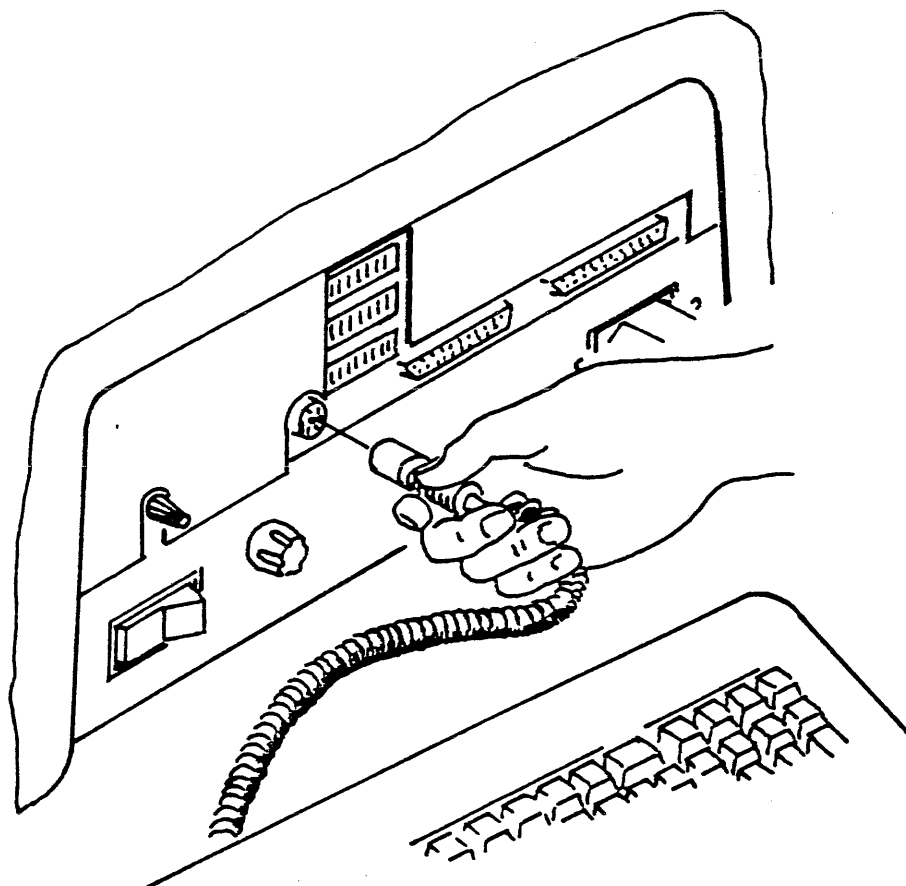

Figure B-5. Connecting the Keyboard to the Display Terminal
2. Plug the coiled cable (attached to the keyboard) into the KEYBOARD port at the rear of the display terminal (see Figure B-5).